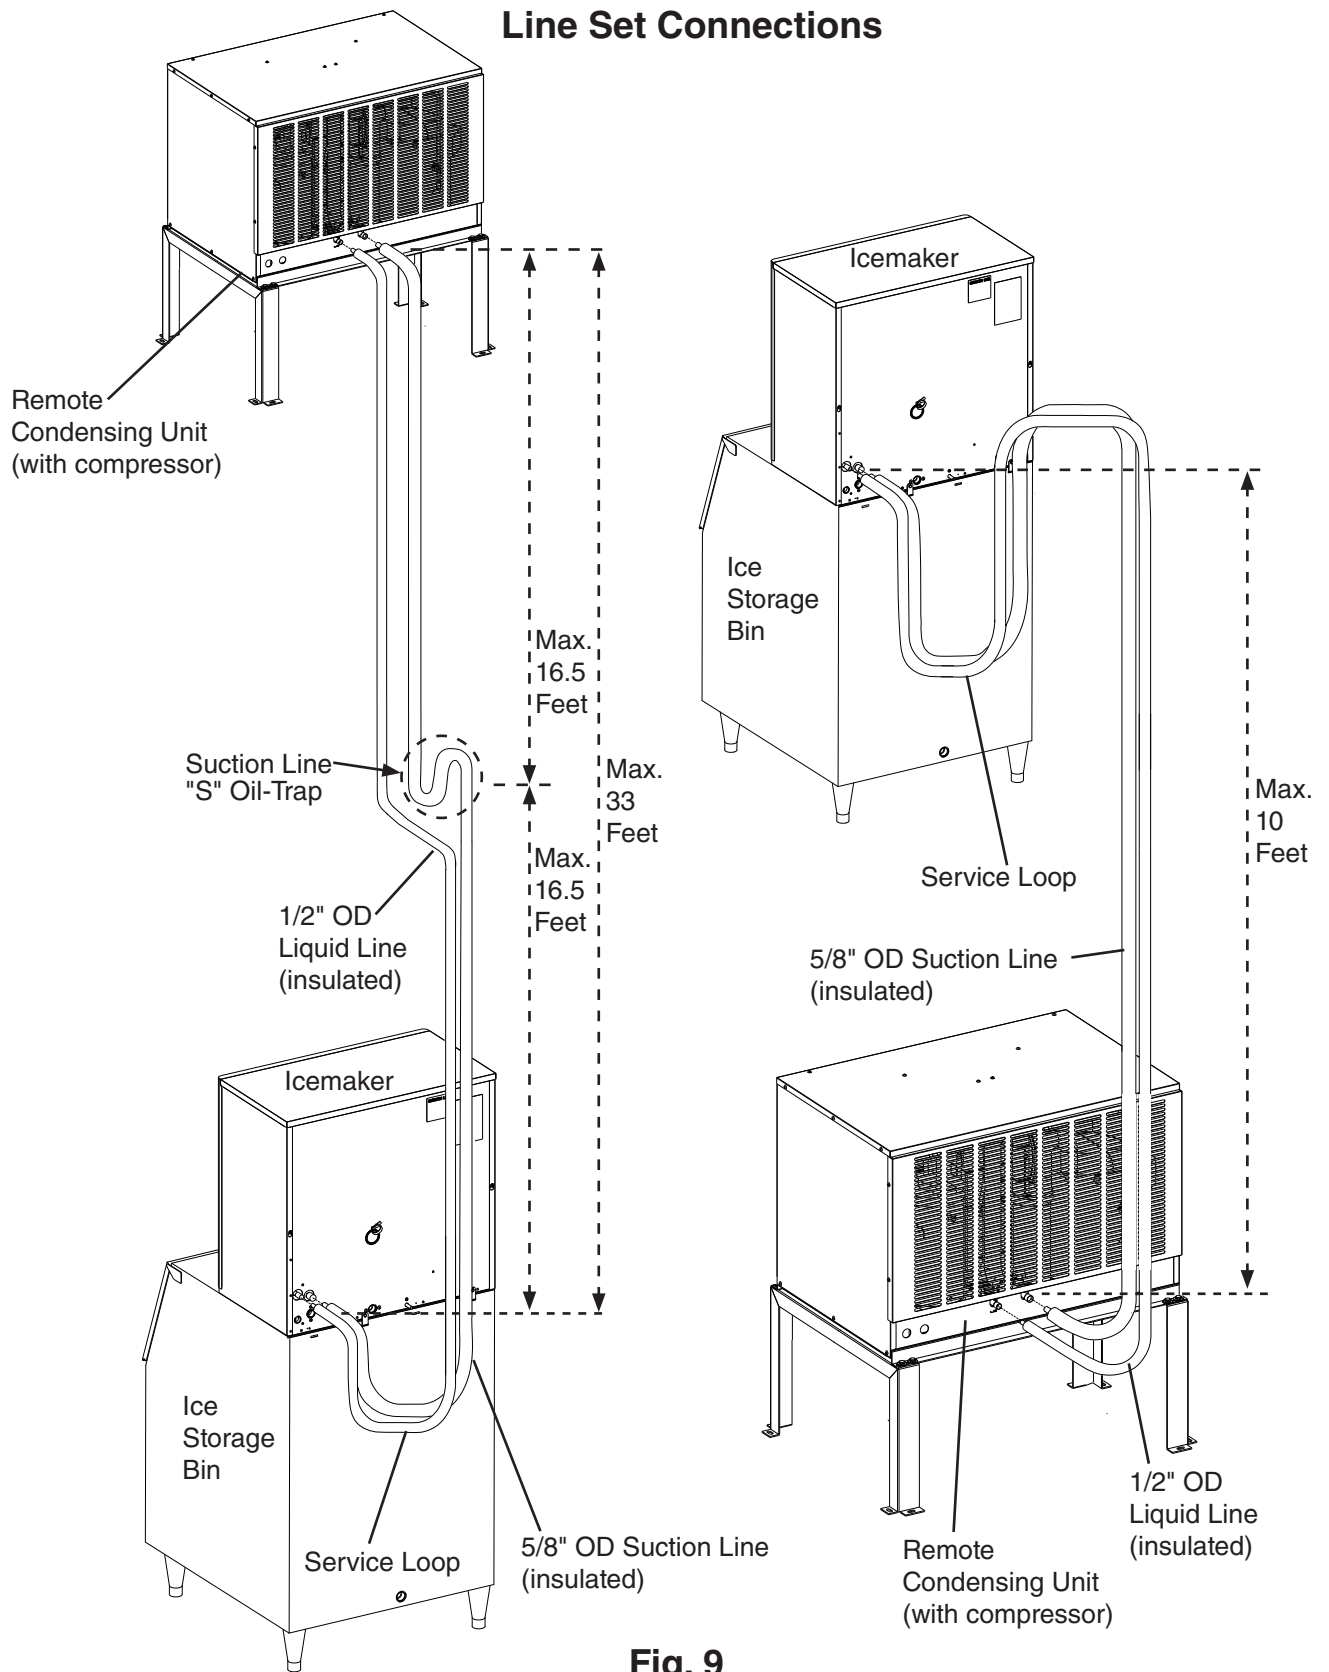

Fig. 9
- The maximum vertical distance between the remote condensing unit and icemaker is 33' (10 m) above or 10' (3 m) below the icemaker. These distances are measured fitting to fitting. See Fig. 9.
- 1) Route the factory line set or appropriate size copper tubing. When field fabricating, insulate the copper tubes separately. Leave a service loop behind the icemaker to allow the icemaker to be pulled out for service. See Fig. 9. Note: The service loop is not considered an oil trap.